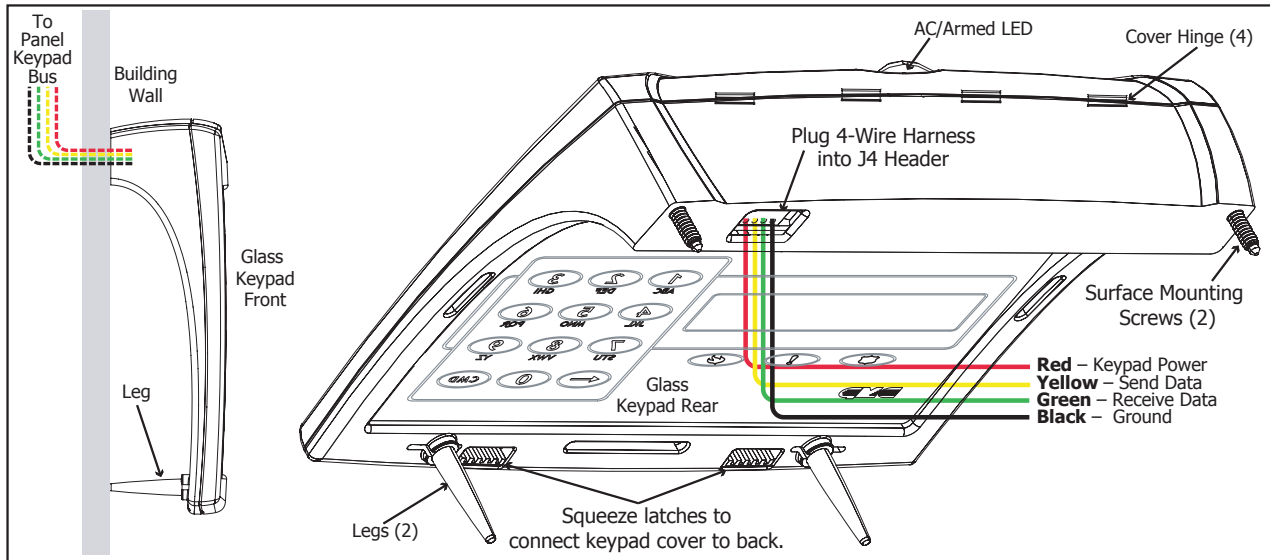

Figure 2: Keypad Side Mounting and Back Showing Wiring Harness Assignments
The keypad housing is designed to easily install using two #6 screws on a flat surface or optional 778 backplate. The keypad housing is made up of two parts: a hinged cover and a base which contains the circuit board, glass touchscreen, and keyboard components. A single 4-wire harness is used to connect the 7760 to the keypad bus of a DMP control panel. Figure 2 shows the back of the keypad with the 4-wire harness connected.
6. Gently plug the 4-wire harness connector onto the 4-pin header through the opening in the back of the keypad. See Figure 2.
2. Lower the cover and gently snap the two bottom latches and two internal side latches into place by squeezing the base and cover together to reduce the stress on the legs. (See Figure 2)
Figure 2 shows wiring harness mounting location and wiring assignments. Observe wire colors when connecting the Red, Yellow, Green, and Black wires to the keypad bus. When wiring directly to the panel terminals, connect Red to panel terminal 7, Yellow to terminal 8, Green to 9, and Black to panel terminal 10.